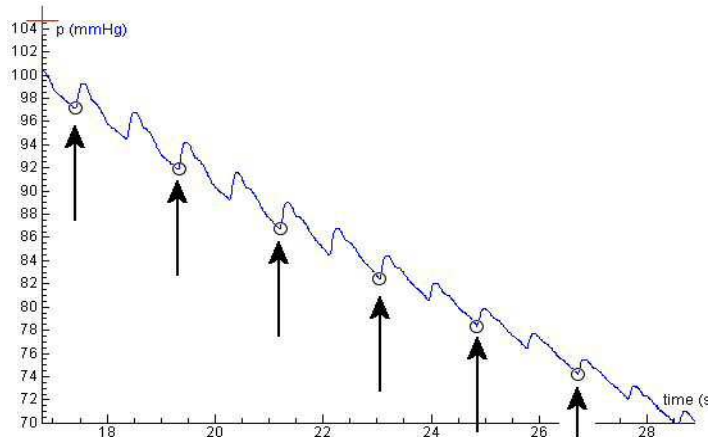

Figure 3. Select the points at which the pressure value is minimal, just before the pressure signal rises again.
7. Repeat the steps 2 to 5. Mark the very first point, very last point and this time mark the maximal pressure values, the tops of the pulses. Take the upper points just after the lower points, so you will get exactly the same number of selected data (see figure 3 and 4).